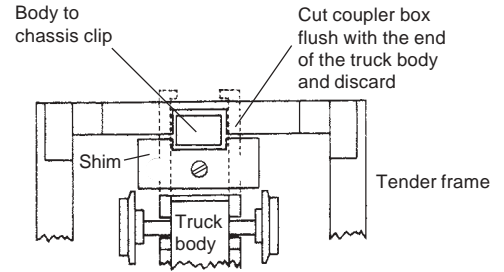

Fig. 1
4. Carefully cut the coupler box off even with the end of the sides. Do not cut off the bar that holds the bottom of the truck onto the top part. See Fig.1.